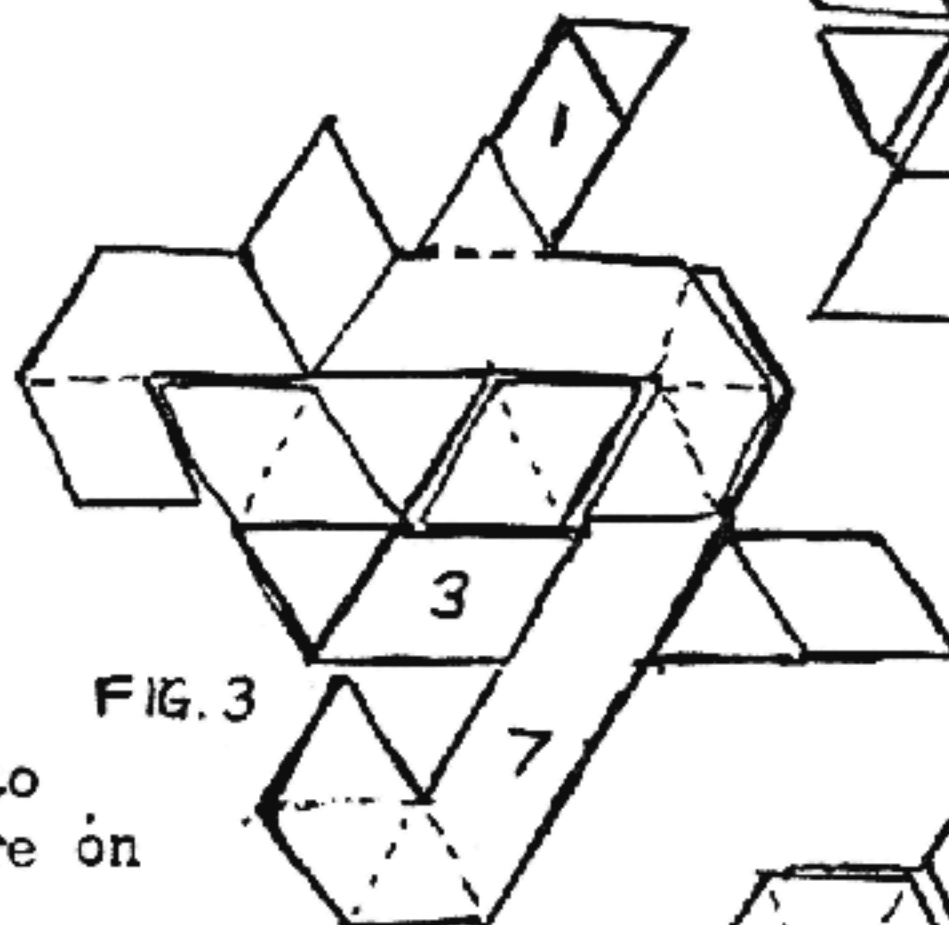

FIG. 3
to insert piece 7, as shown in Fig. 3.
3. Push piece G inward all the way and piece O one inch to the right in order to insert piece A as shown in Fig. 3. Return piece O and then piece G to their previous locations.